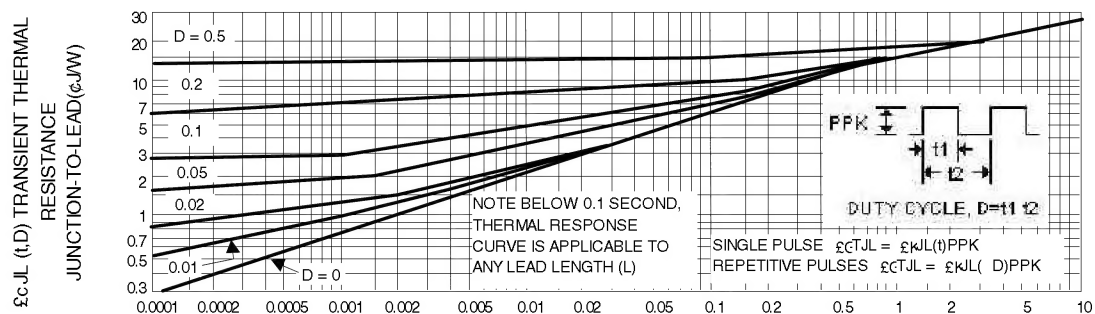
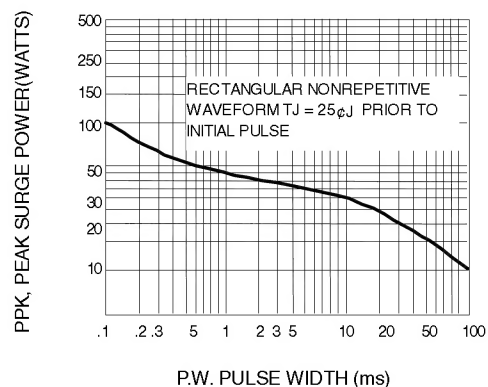
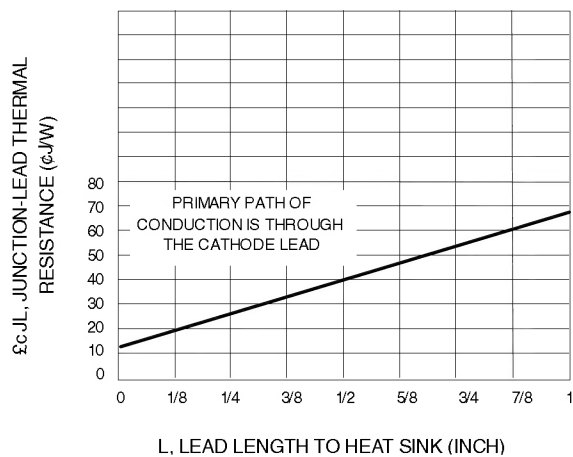

Fig. 2-TYPICAL THERMAL RESPONSE L,
Fig. 3-MAXIMUM SURGE POWER
Fig. 10-TYPICAL THERMAL RESISTANCE
4. SURGE CURRENT (I_r) NON-REPETITIVE - The rating listed in the electrical characteristics table is maximum peak, non-repetitive, reverse surge current of 1/2 square wave or equivalent sine wave pulse of 1/120 second duration superimposed on the test current, I_{ZT}, per JEDEC standards, however, actual device capability is as described in Figure 3.
ΔT_{JL} is the increase in junction temperature above the lead temperature and may be found from Figure 2 for a train of power pulses or from Figure 10 for dc power.
Data of Figure 2 should not be used to compute surge capability. Surge limitations are given in Figure 3. They are lower than would be expected by considering only junction temperature, as current crowding effects cause temperatures to be extremely high in small spots resulting in device degradation should the limits of Figure 3 be exceeded.